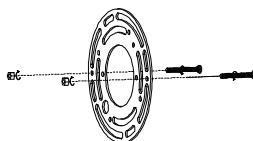

Fig 1
3. Align the screws and nuts with the holes on the Mounting Plate, tighten the screws and control the protruding length. (Fig 1)